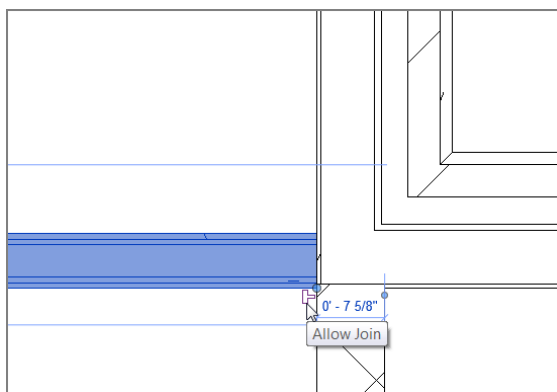

FIGURE 2.59: Allowing the walls to join back up again
8. Notice that there is an additional blue T-shaped icon. Hover your cursor over this icon; you can pick it to allow the walls to join back up, as shown in Figure 2.59.